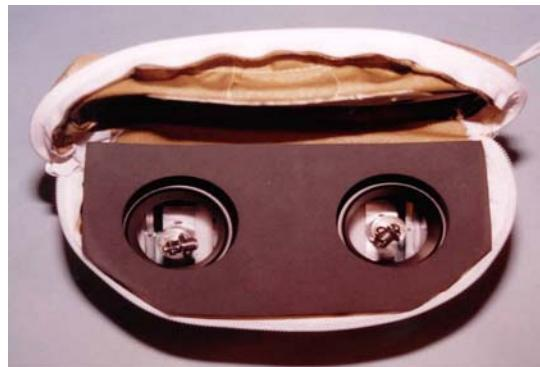

Figure 10.16- Rear foam layer inserted
17. Line up the four $\frac{1}{2}$ " diameter bores in the Rear Abdominal Foam Layer (T1LAM013) with the posts protruding from the inside face of the internal mounting plate. Pass the DGSP assembly cables through the large bored holes in the rear foam layer. Press the rear layer of foam over the cones and against the internal mounting plate, as shown in **Figure 10.16**. The foam should be on the inside of the abdominal bag.